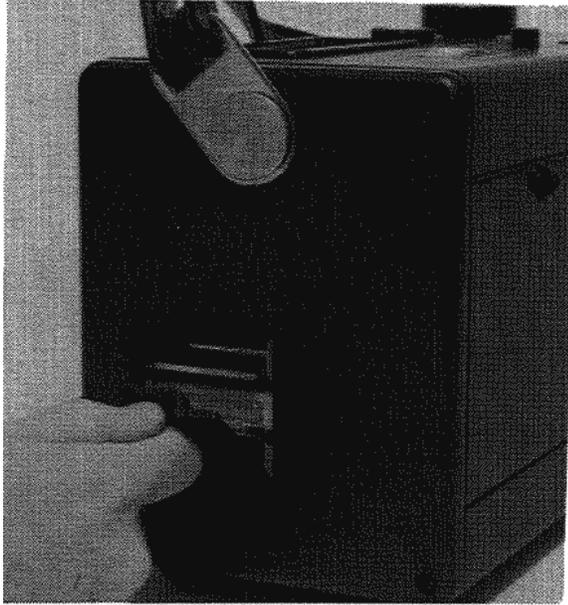

Figure 19. Opening the sponge compartment door
- Step 1.** Open the sponge compartment door on the side of the instrument (Figure 19).